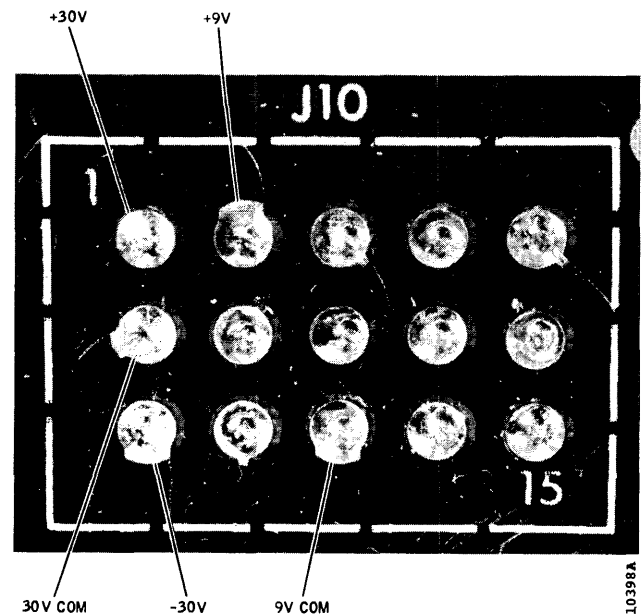

Figure 3-4. Dc Voltage Check Points
2. Locate connector J10 on the Power Supply circuit board (see Figure 3-4) and check for in-tolerance dc voltages between the pins listed below: